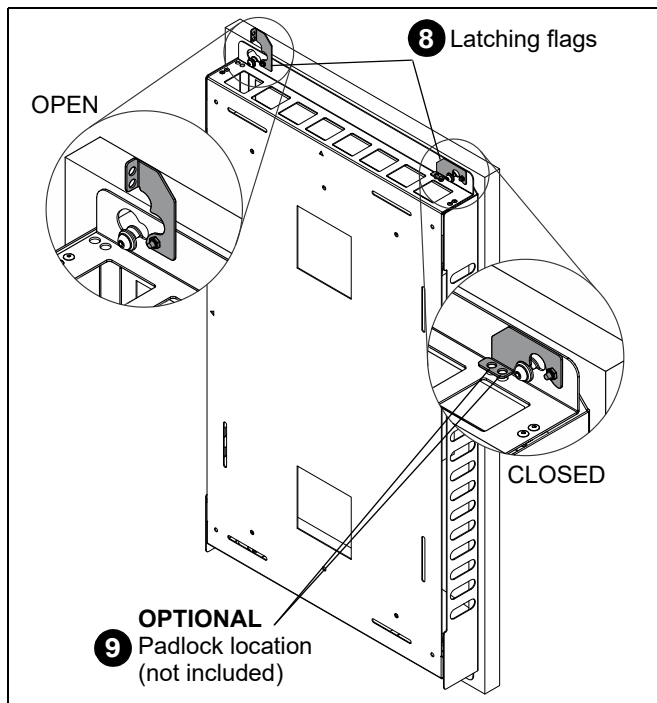

Figure 6
8. Move latching flags to **CLOSED** position. (See Figure 6)
9. **OPTIONAL:** Lock latching flags in place if desired. (See Figure 6)